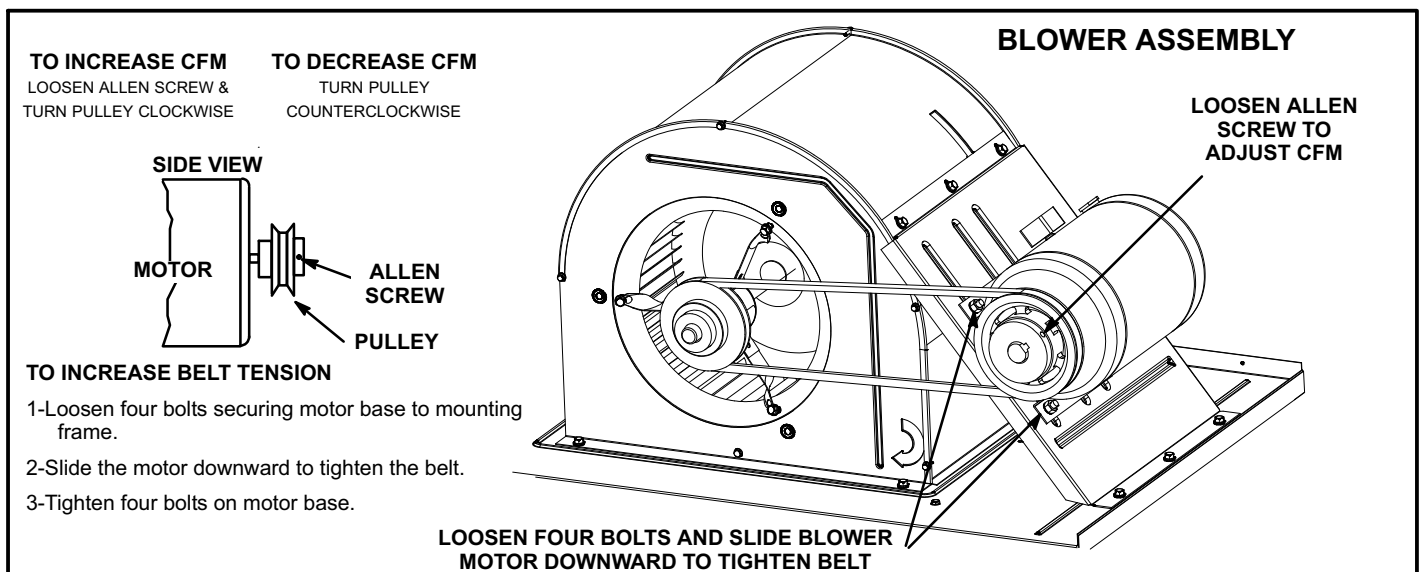

FIGURE 9
- 5- The blower RPM can be adjusted at the motor pulley. Loosen Allen screw and turn adjustable pulley clockwise to increase CFM. Turn counterclockwise to decrease CFM. See figure 9. Do not exceed minimum and maximum number of pulley turns as shown in table 1.
- 1- Loosen four bolts securing motor base to mounting frame. See figure 9.